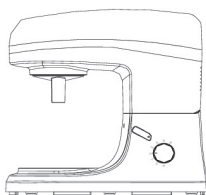

Fig. 2
11. Add the food ingredients to the bowl in accordance with the recipe, and then open the upper main body using the head-lift lever (2) see Fig 2 and 3.